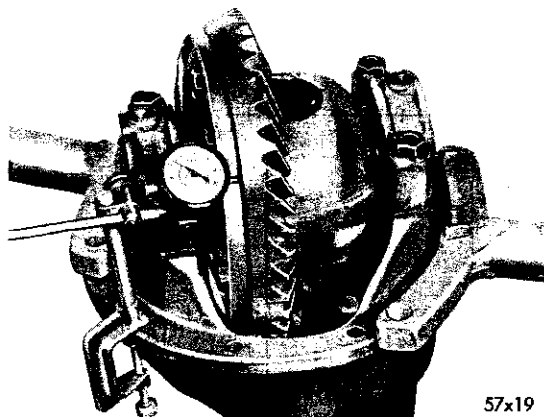

Fig. 7—Measuring Drive Gear Runout
(1) Mount the carrier in Stand DD-1014 and attach the dial indicator Tool C-430 or Tool C-3339 to the differential carrier flange so the pointer of the indicator squarely contacts the back face of the ring gear (Fig. 7). Make certain there is no end play in the differential side bearings. If end play is evident, remove the adjuster lock and slightly loosen the bearing cap on the gear tooth side. Tighten the adjuster sufficiently to eliminate the end play.
(2) Rotate the drive gear several complete revolutions while noting the total indicator reading. This reading must not exceed .005 inch runout. If the indicator reading exceeds the .005 inch runout, it will be necessary to take a second reading after the drive gear has been removed. This operation is covered during "Differential Disassembly". Remove the dial indicator.
(3) Apply identifying punch marks on the bearing